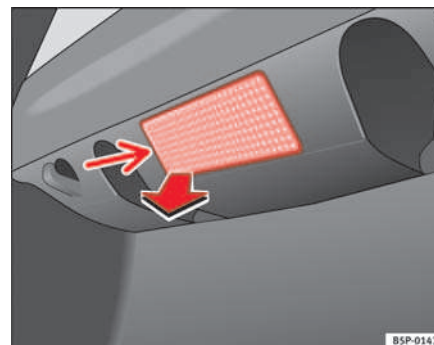

Fig. 187 Luggage compartment light
- Extract the tulip shaped fitting by pressing on the inside edge of this-arrow- using the flat side of a screwdriver ⇒ fig. 187. ►